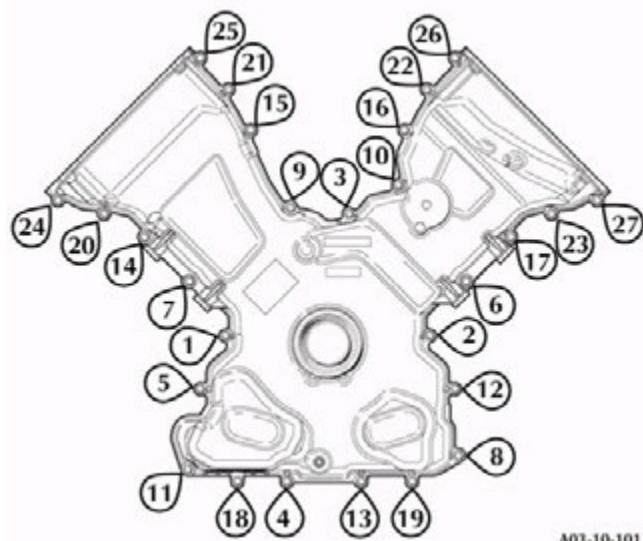

Figure 8
6. Torque the 27 bolts in the sequence shown in Figure 8.